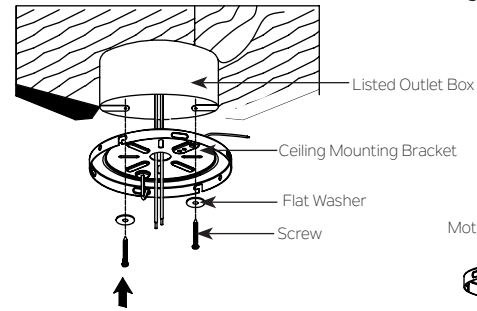

Fig. 5
**Step 2.** Before attaching fan to outlet box (not included), ensure the outlet box is securely fastened to at least two points to a structural ceiling member (a loose box will cause the fan to wobble). Pass the 120 volt supply wires from the ceiling outlet box through the center of the ceiling mounting bracket. Install mounting bracket to outlet box in ceiling using the screws and washers included with the outlet box. (Fig. 5)